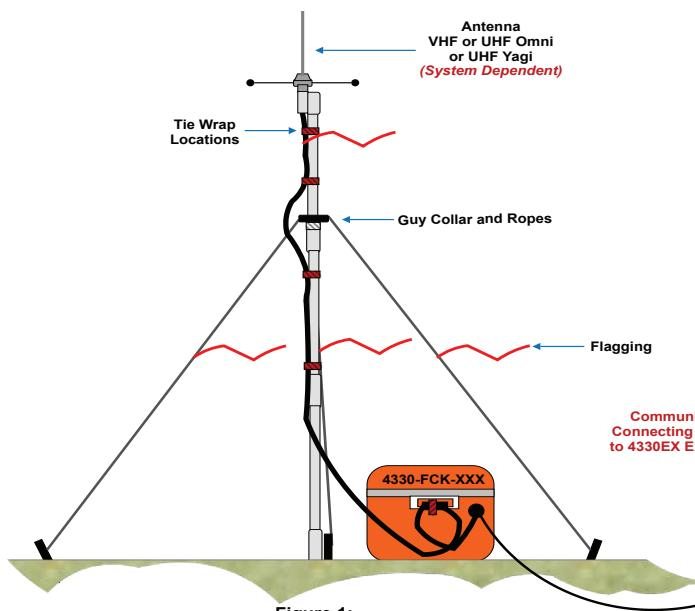

Figure 1:
4. Field Wire Setup: (See Figures 1, 2, 3 and 4)